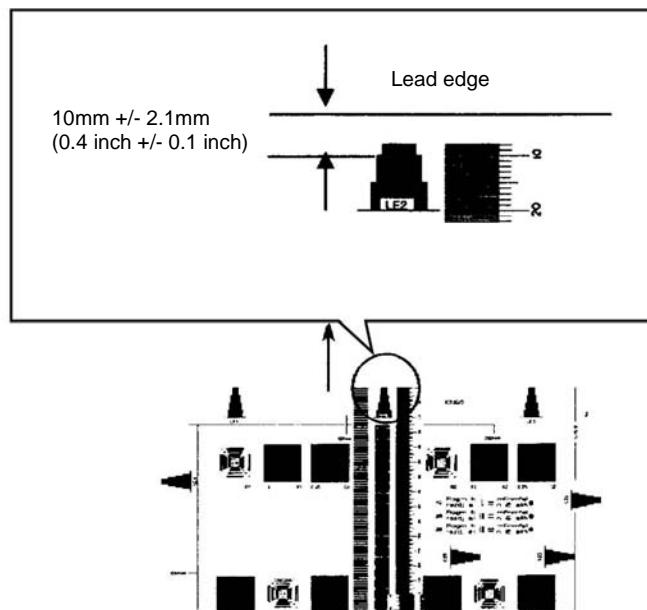

Figure 1 IIT lead edge registration
3. On the 2nd copy, check that the distance from the lead edge to the top of Step 3 on the LE2 scale is 10mm +/- 2.1mm (0.4 inch +/- 0.1 inch), Figure 1.